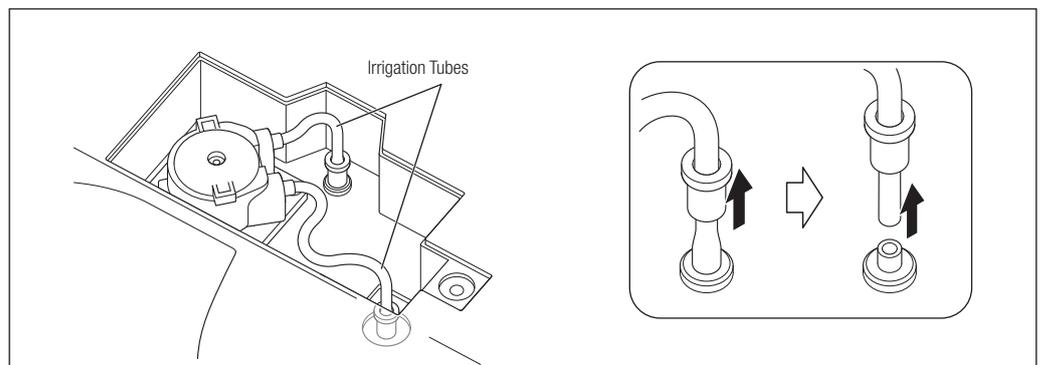

Fig. 51
- 3) Remove two Irrigation Tubes from the Control Unit (Fig. 51).
- 8) Mount the Irrigation Tube by following the removal procedure in reverse. Press the Connector Ring firmly into the Control Unit until it is fully pressed on (Fig. 51).